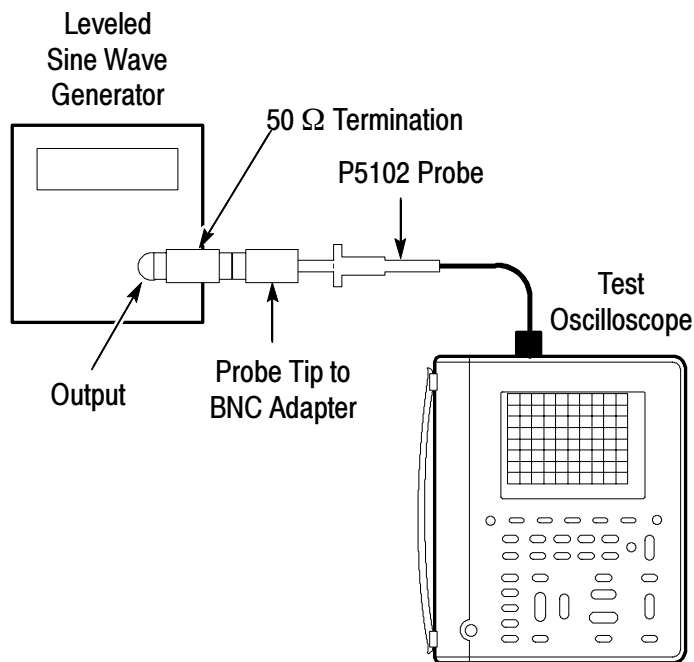

Figure 10: Bandwidth Test Setup
1. Connect the test setup as shown in Figure 10.